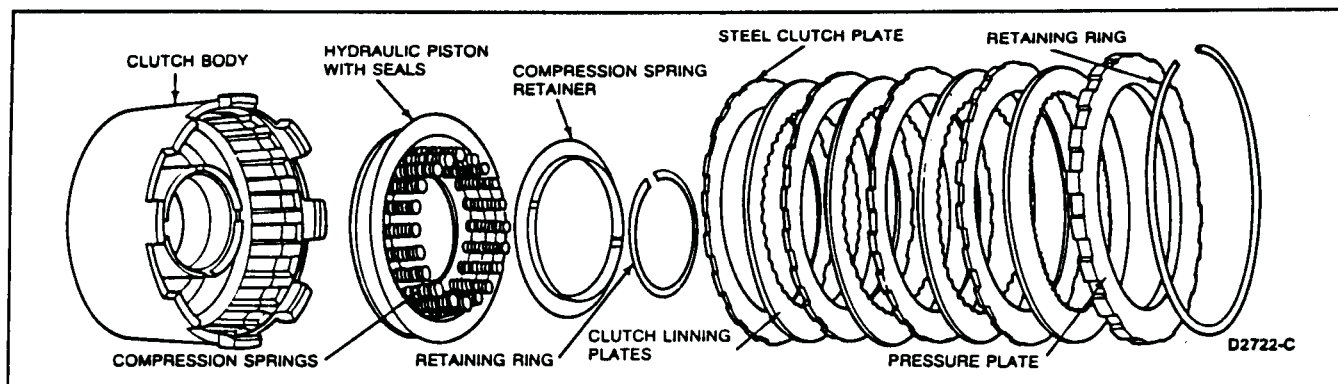

FIG. 28 Reverse and High Clutch Disassembled
1. Inspect the steel clutch plates and clutch lining plates (Fig. 28) for wear, damage or effects of overheating. Replace the entire set if necessary. **If new plates are used, immerse them in transmission fluid for 30 minutes before assembly.**
6. Install the clutch plates and pressure plate in the correct order (Fig. 28) and secure with the retaining ring.